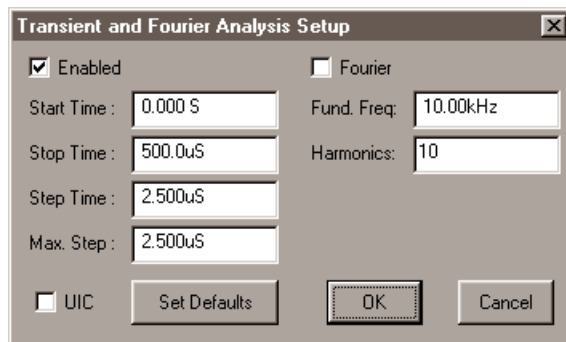
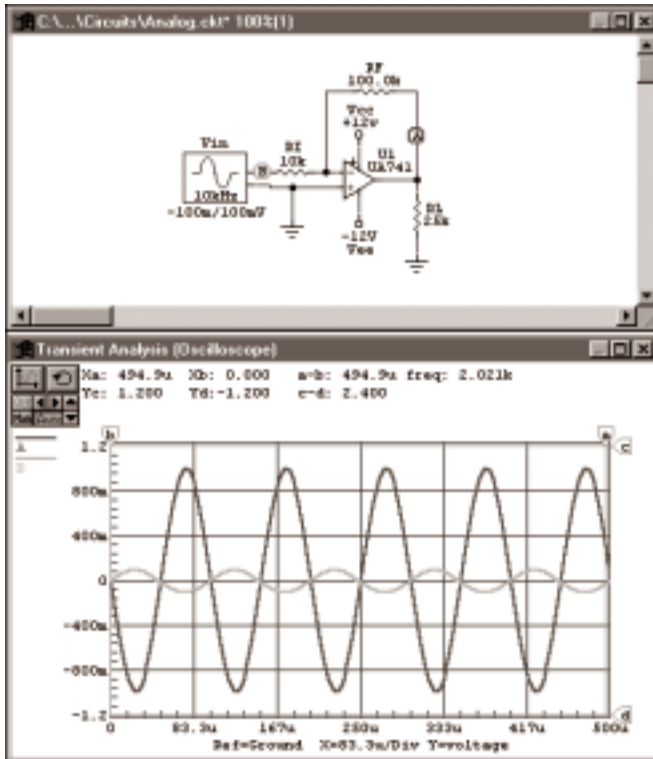

Figure 6.14. Use this dialog box to set up Transient and Fourier Analyses.
Figure 6.15. The circuit ANALOG.CKT, and the Transient Analysis window.
- 2 Click the **Transient/Fourier** button to display the dialog box pictured in Figure 6.14.
The waveform in Figure 6.15 was generated by simulating the ANALOG.CKT circuit using the values shown in Figure 6.14. This analysis shows the voltage at the test points during the time frame specified in the **Start** and **Stop** fields. Notice that the x axis shows the time in seconds, and the y axis is voltage. The larger waveform represents the voltage at the circuit output, while the smaller waveform is voltage at the source (signal generator) or input. See *Using the Analysis Windows* earlier in this chapter for more information about manipulating the waveforms.